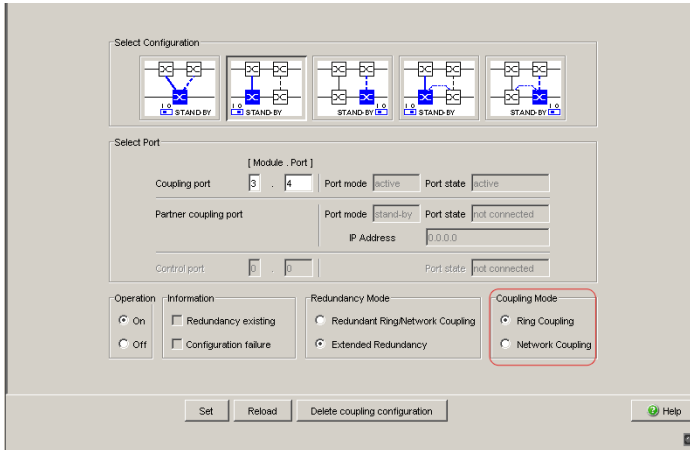

Figure 32: Selecting the coupling mode
- In the “Coupling Mode” frame, select (see figure 32)